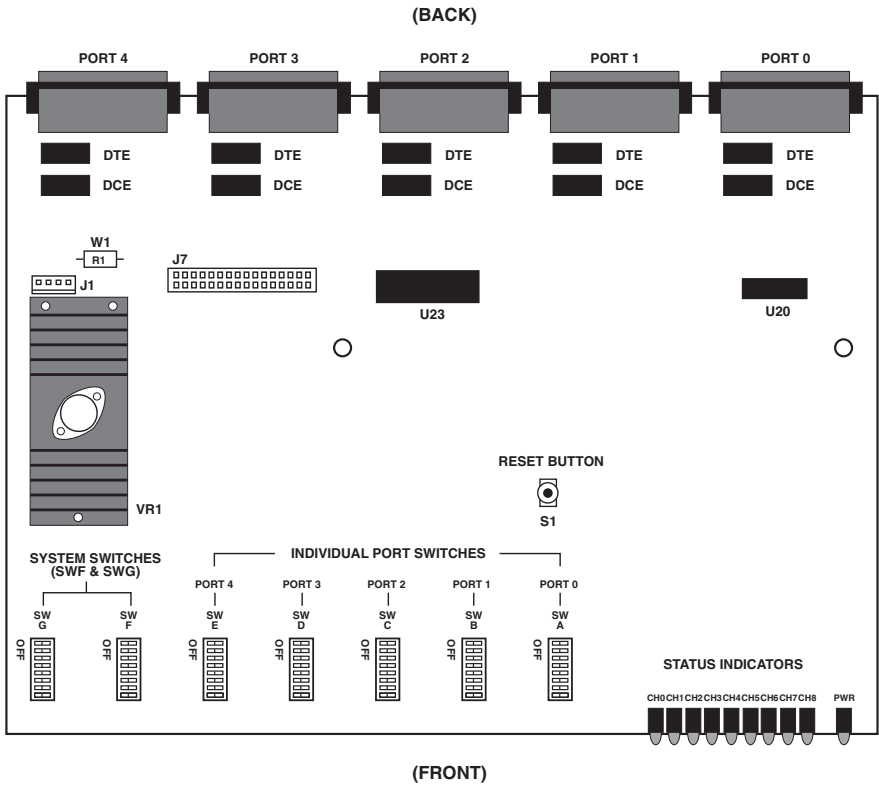
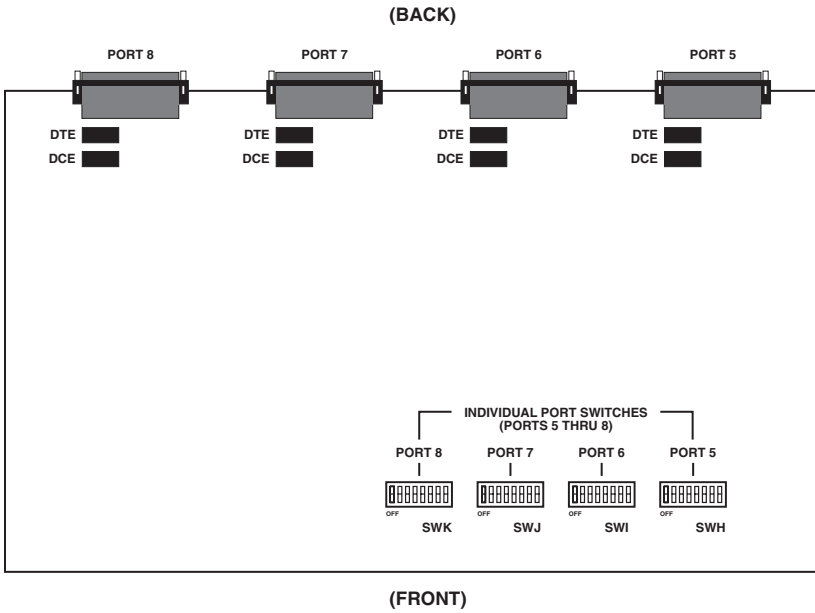

Fig. 3-1. Standard Unit Switch and Jumper Locations.
Fig. 3-2. Expansion Card Switch And Jumper Locations.
Remove the cover to access the DIP switches. You'll need a small Phillips head screwdriver. Six (6) screws attach the cover to the chassis, three on each side of the unit. Fig. 3-1 shows the location of the DIP switches on the standard unit (part number TL160A-R2), and Fig. 3-2 shows the location of the DIP switches on the 4-Port Expansion Card (part number TL160-C).
On the standard 5-port board (as shown in Fig. 3-1):
On the 4-port expansion board (as shown in Fig. 3-2):